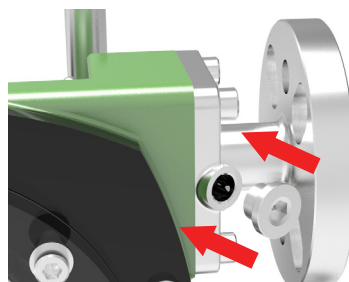

Figure 9e
6. Tighten all 4 bolts fully to clamp the hose and ensure that the hose can be seen through the inspection hole in the side of the port flange. (Figure 9e)